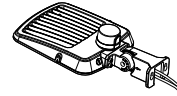

Figure 8
- Step 2: Install the bracket on the fixture.(Figure8).